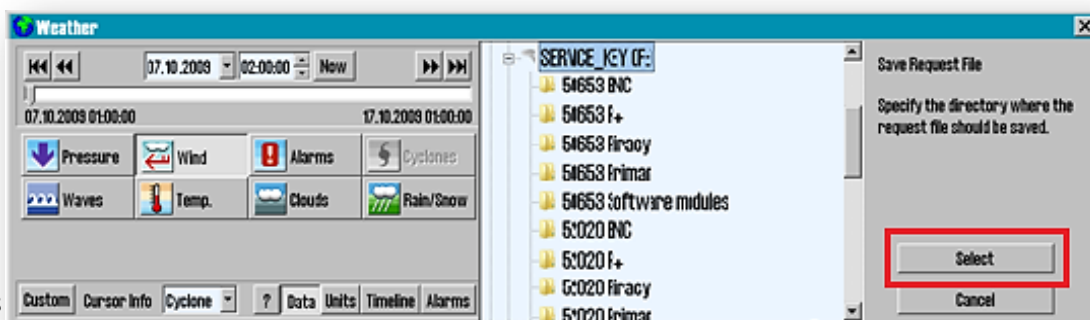

fig.8
4. Select the USB memory stick from the directory display. If it is not present in the list, collapse the 'My Computer' entry by pressing the '-' box next to it and then expand it again in the same manner. The USB memory stick should now be available. Specify where the order file(request file) will be saved, and press "Select" button. It is a condition that the order file is stored on a removable medium such as a **TECDIS Service Key**. (fig.8)